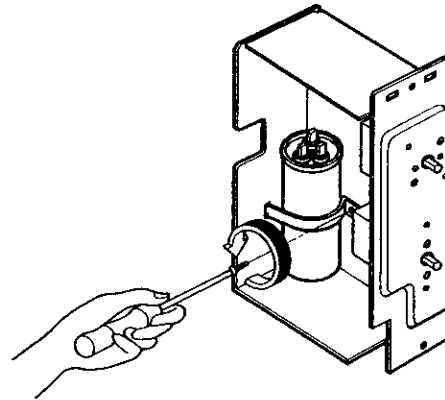

Figure 15
4. Remove the screw which fastens the capacitor clamp. (See Figure 15)